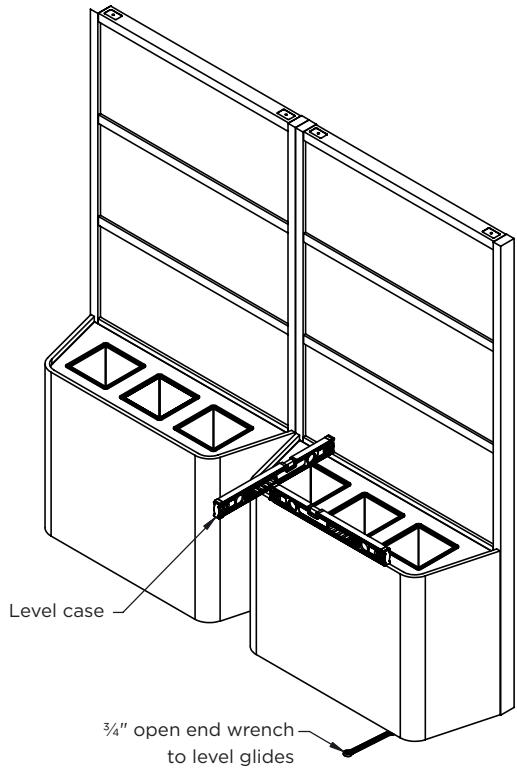
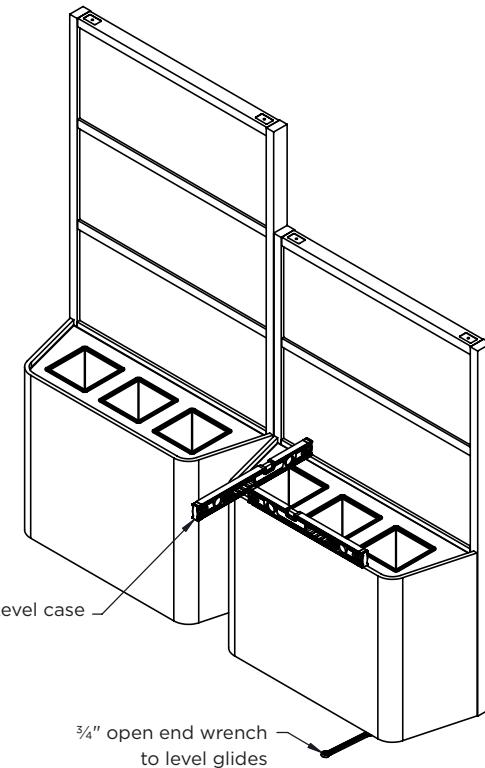

Figure 4B
Figure 4C
**Note:** Reference Figure 4B for 90" h to 90" h planters and Figure 4C for 90" h to 72" h planters
**Note:** Reference **Figure 4B** for 90" h to 90" h planters and **Figure 4C** for 90" h to 72" h planters